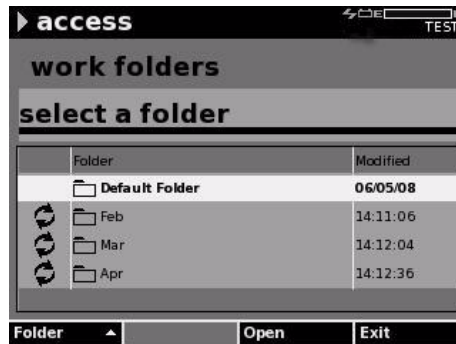

Figure 95 Access – Work Folders
- 4 Press **ENTER** (Figure 95 on page 103).